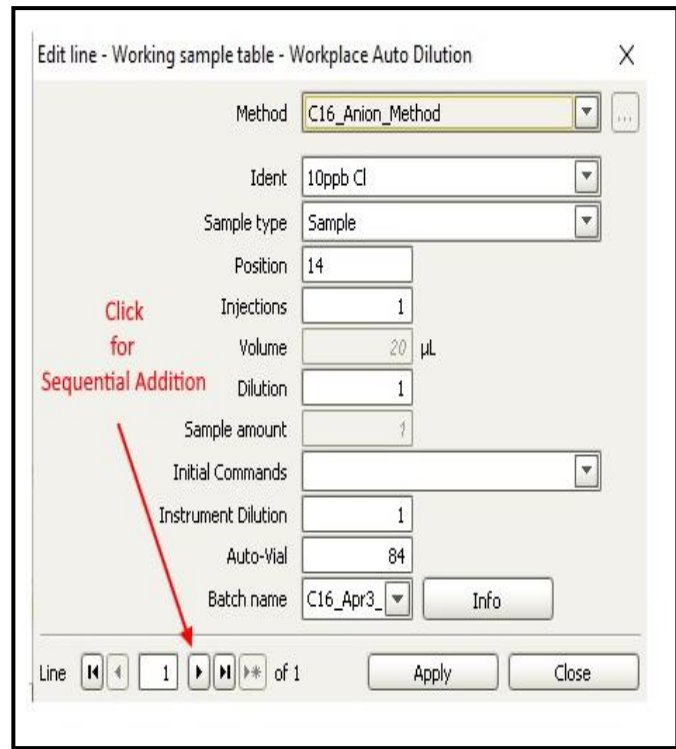

Figure 7
- xii. Batch Name: naming convention= Course/PI\_DDMMYY\_An/Cat (Figure 7)
- xiv. Subsequent samples can be sequentially added (Figure 7); Apply after each addition